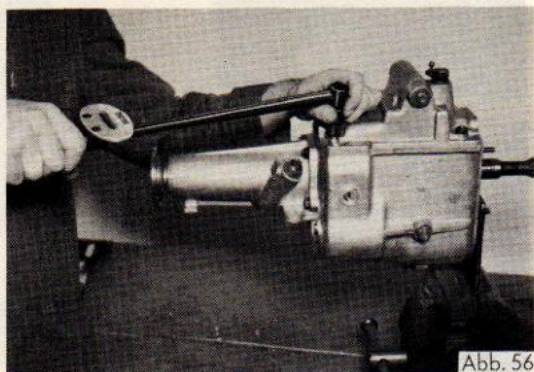

Abb. 56
50. Screw on selector head nuts with shake-proof washers and tighten to a torque of 22 ft/lb (3.0 m/kg) (Fig.56).